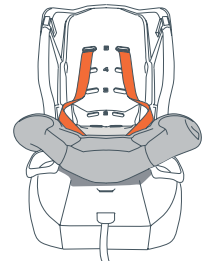

Fig. 30a
- Loosen harness by pressing the center adjuster and pulling on harness. Pull top of seat fabric down to expose the forward facing belt path (Fig. 30a).